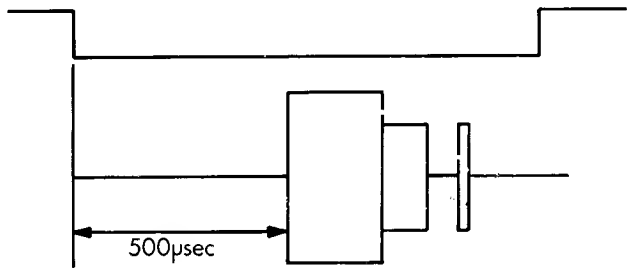

Fig. 5-1 Index burst waveform
- 5) Measure timing between sweep start and an initial data pulse. It should be 500 usec \pm 500 usec. When the timing is not within this range, proceed with the following adjustment. (Refer to Fig. 5-1).